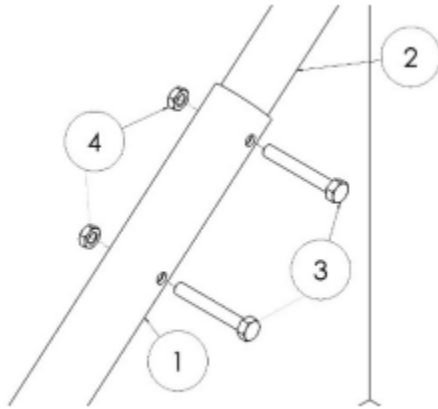

Figure 4.16
5/16" x 2-1/4" hex bolts (3) and 5/16" hex nuts (4). (Figure 4.16)